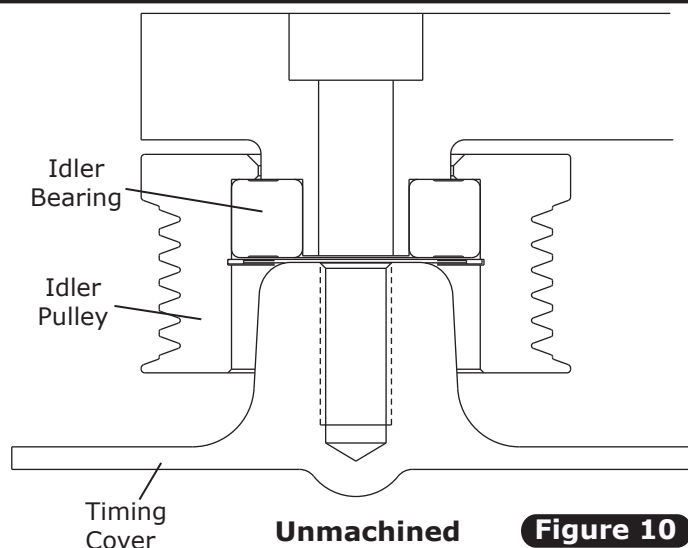
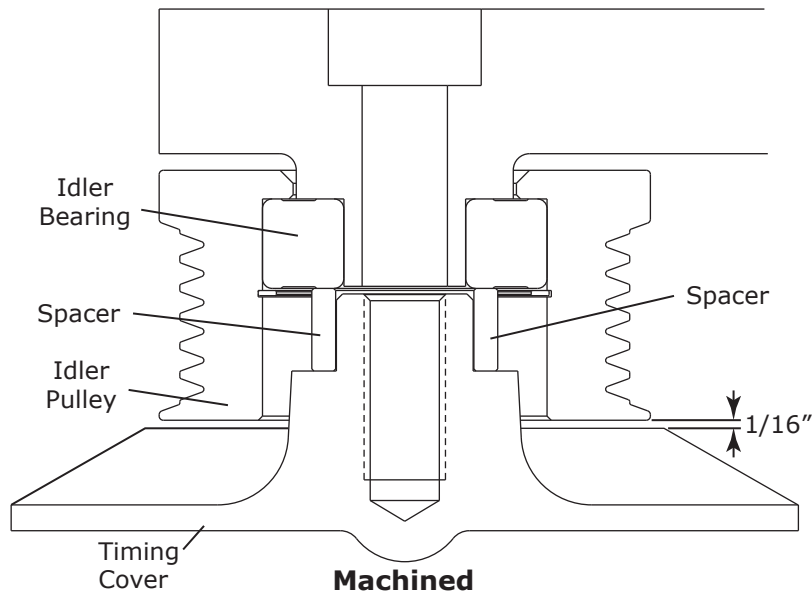

Figure 10
Figure 11
4. When properly installed, the idler bearing inner race will fit loosely over the upper bracket boss and seat on top of the unmachined timing cover boss or spacer (#180168), depending on design. When the M10 bolt is tightened, the inner race must be tightly clamped between the upper bracket and timing cover such that no play (other than slight play within the bearing itself) can be detected (See Figure 10, below, and Figure 11, Page 10).